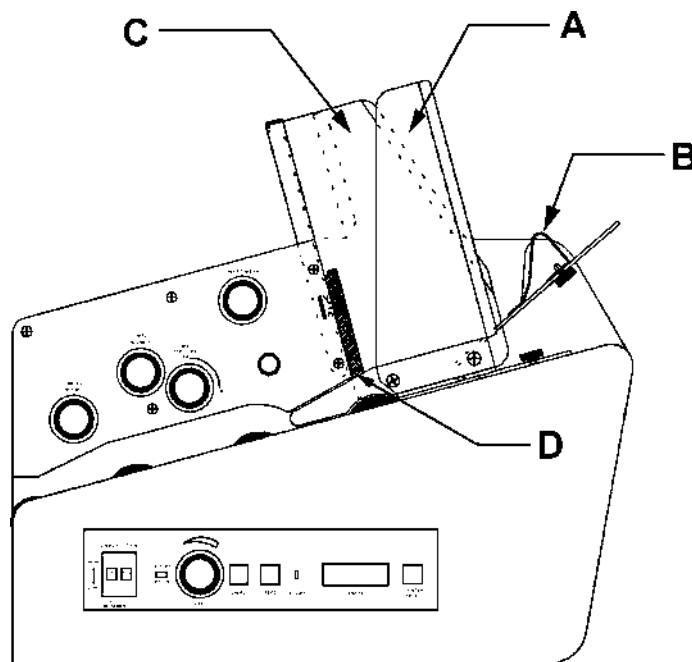

Figure 2
1. Insert a stack of envelopes between the guides [Figure 2 A and C].